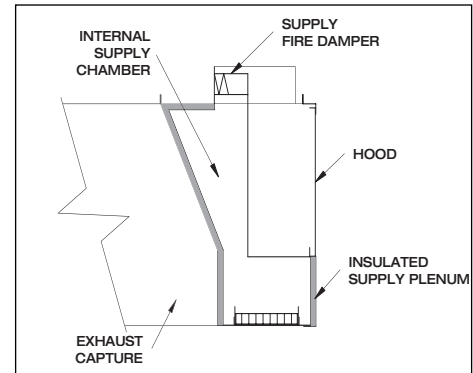

Fig. 20D
6. On combination hoods, make sure the fire damper is located over the internal supply chamber. (see Fig. 20D)